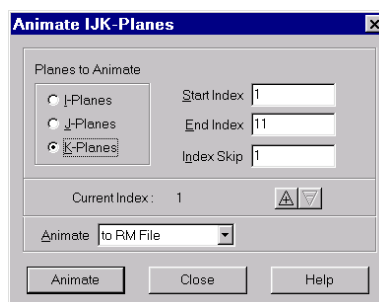

Figure 29-2. The Animate IJK-Planes dialog.
1. From the Tools menu, choose Animate, then choose IJK-Planes. The Animate IJK-Planes dialog appears, as shown in Figure 29-2.